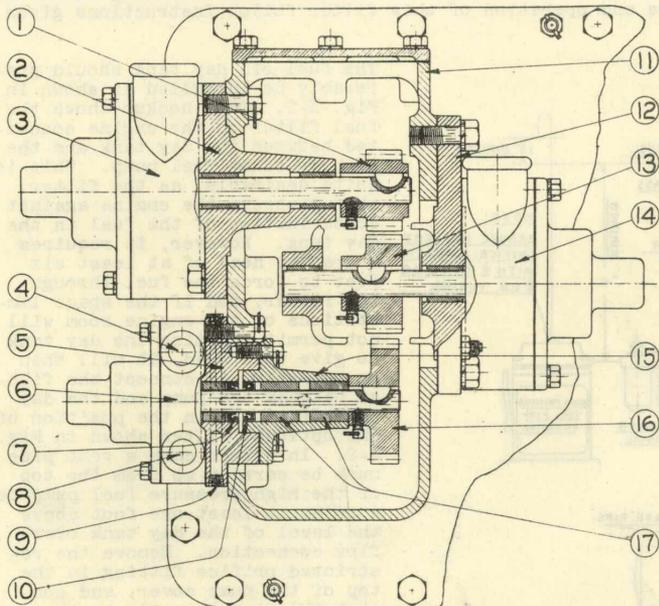

FIG. N-1
The fuel transfer pump, which is located in the rotary pump housing on the after end of the centerframe, delivers a continuous supply of fuel to the engine from the main storage tank. It is a rotary type gear pump, identical in construction (but smaller in size) with the lubricating oil pumps described in Section S. The description will not be repeated here, nor the instructions regarding direction of rotation, which apply equally well to the transfer pump. (On direct reversible marine engines the rotary gear type fuel transfer pump is reversible. Consequently fuel is delivered from the same port irrespective of direction of rotation.) The fuel transfer pump drive is shown on Fig. N-1. Transfer pump (6) is mounted in adapter (5) which is bolted and doweled to housing (11). If the adapter is replaced it must be positioned for .004" to .005" gear backlash before doweling. A cylindrical fit between pump and adapter permits replacement of the pump without disturbing the drive gear setting. The pump shaft and rotor is
The bushing in the adapter is lubricated by fuel oil from the pump, and the two in the bearing by lubricating oil, fed through drilled holes in the castings from a lubricating oil line connecting into the adapter. Oil seals (7) and (10) prevent contamination of the lubricating oil by the fuel oil and if replaced must be installed as shown, that is with the leather ends together and flush with the ends of the bores. Some engine models are equipped with one rotary type seal instead of the two seals shown in Fig. N-1. This type of seal rotates with the pump shaft and seals against the specially prepared faces of the adjacent bushings. Fuel leakage past the seal is drained off through connection (9), which should be piped back to the fuel tank. Under no circumstances should this opening be plugged, or the fuel will drain into the lubricating oil in the crankcase. Drive gear (16) is secured to the shaft with a Woodruff key and setscrew, which should be securely wired, as should all the internal bolts in the assembly.